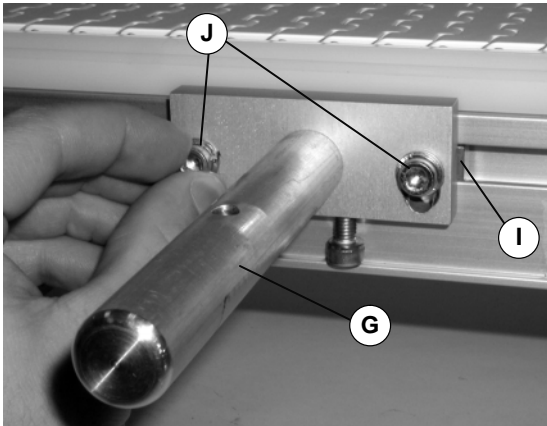

Figure 6
- Attach support bar assembly (G of Figure 6) to conveyor using T-bar (I) with screws (J), hand tighten.